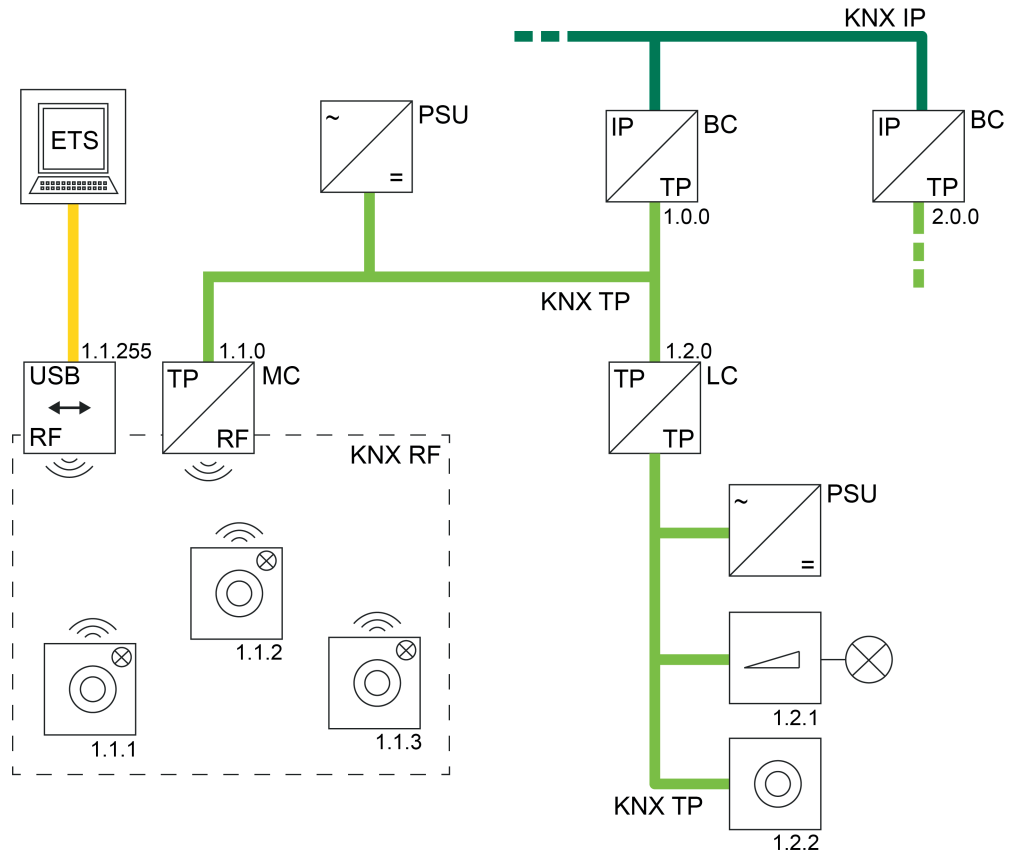

Figure 23: Example of a possible KNX topology with a KNX RF USB data interface
- Use of a KNX RF USB data interface (Figure 23):